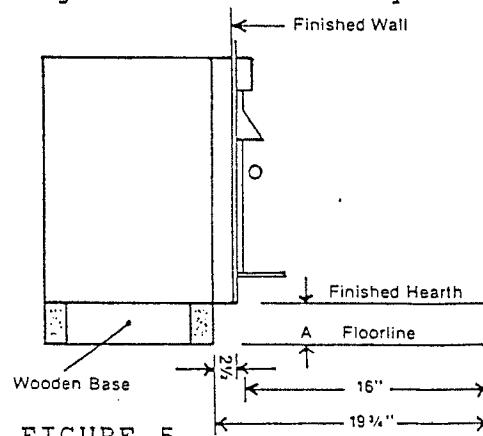

FIGURE 5
- B. Lay out the location on the floor and construct base (See Figure 5).
Base for Model ZC-80 must be level with or slightly higher than finished hearth height—dimension (A) Figure 5. Front of cabinet must be recessed 2 1/2" from finished wall.